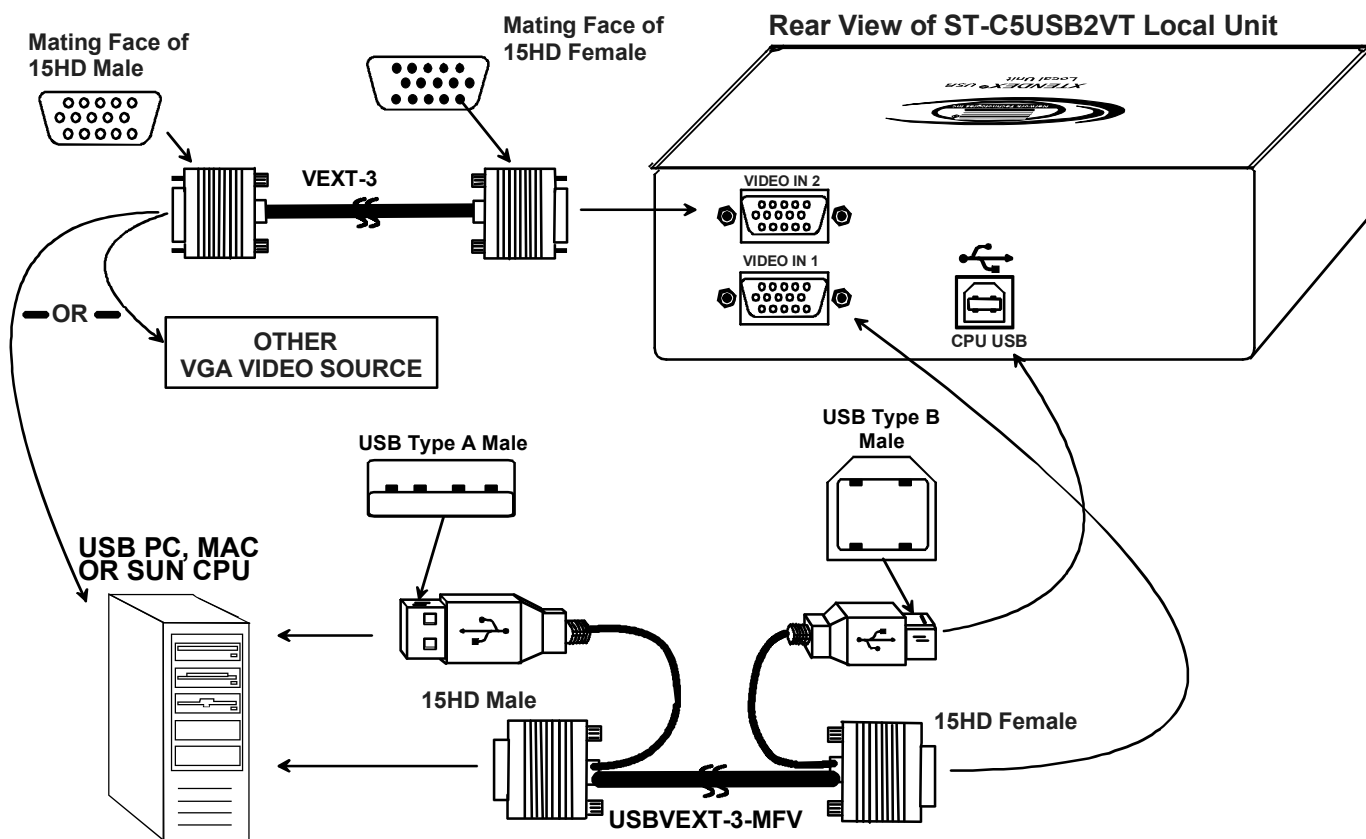

Figure 1- Connect video and device cables to the Local Unit
1. Connect cables from the Local Unit to the back of the CPU. (See Figure 1.)